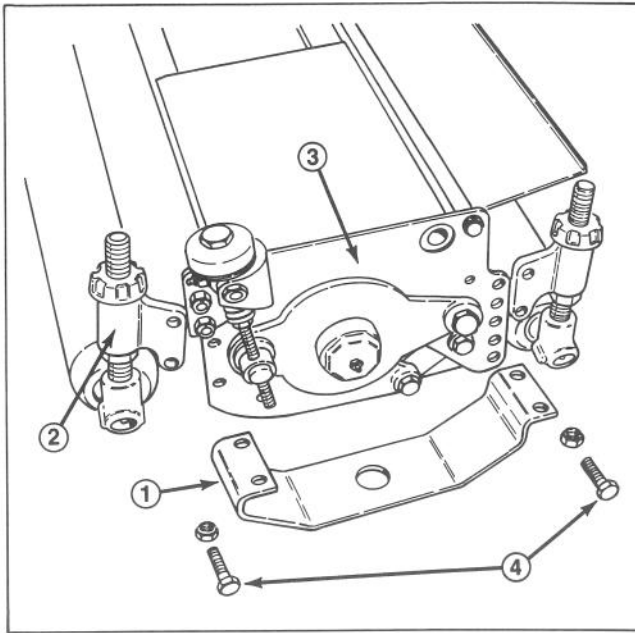
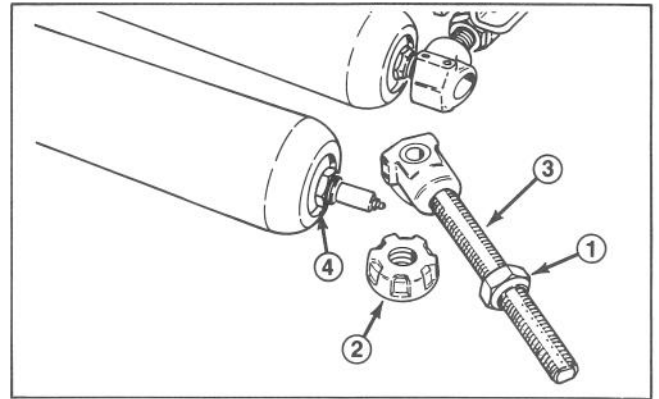

Figure 32
Figure 33
1. Remove the fasteners securing the guard and roller adjustment housing to the side plate (Fig. 32) or loosen the cone nuts on the threaded adjustment rod, unscrew the adjustment knob and drop the threaded rod out of the adjustment housing (Fig. 33).
2. The threaded rod and collar assembly can be removed from the roller by sliding it off the shaft at both ends (Fig. 33).
IMPORTANT: When assembling a new roller to the cutting unit mount the roller so that the roller shaft "flex lock nut" is on the right side of the cutting unit (Fig. 33). (As viewed by the operator sitting on seat of machine). This prevents the lock nut from loosening during operation.